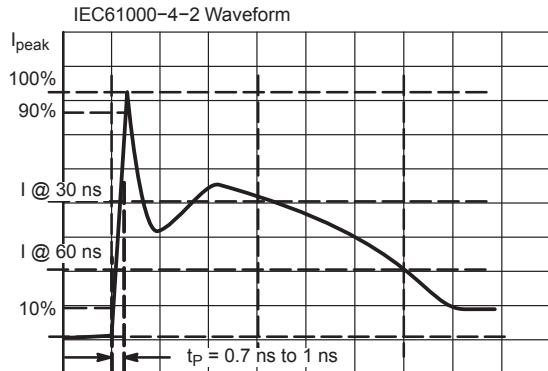

Figure 3. IEC61000-4-2 Spec
3.For test procedure see Figures 3 and 4.